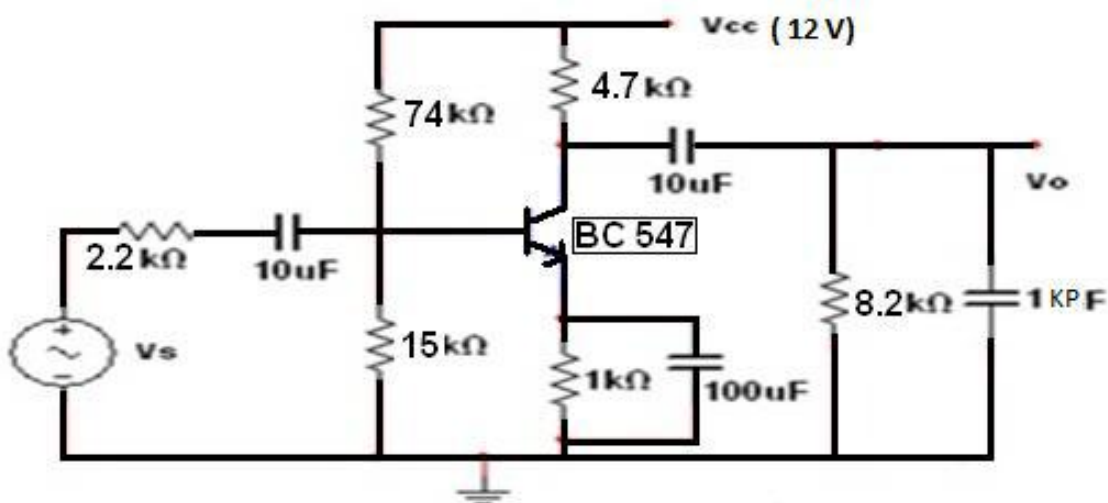

Fig. 1: CE BJT amplifier
1. Connect the circuit as shown in fig.1, Set source voltage as 50mV P-P at 100 Hz frequency using the function generator.